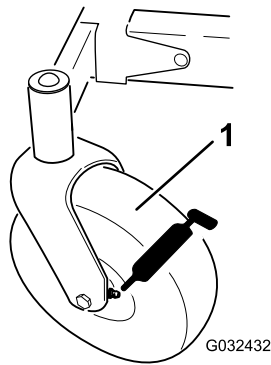
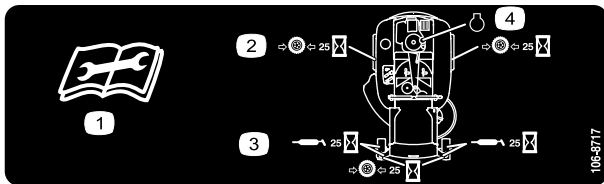

Figure 39
Figure 40
3. Clean the grease fittings (Figure 39 and Figure 40) with a rag.
4. Connect a grease gun to each fitting (Figure 39 and Figure 40).